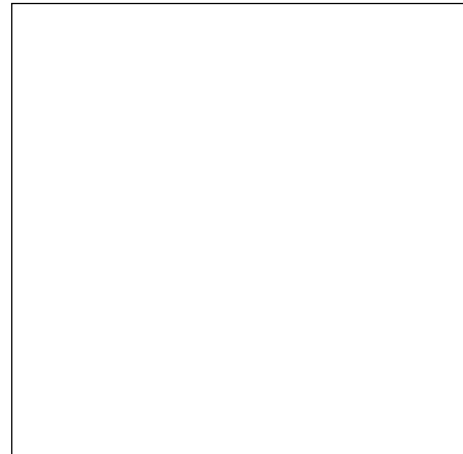

Fig. 2 : Holes in luggage compartment, left
- 5.) Drill a diameter 36 mm \varnothing hole ("y") at the centre punch mark in the luggage compartment floor between the left frame side member and spare wheel through for the cable leadthrough; see Fig. 2.